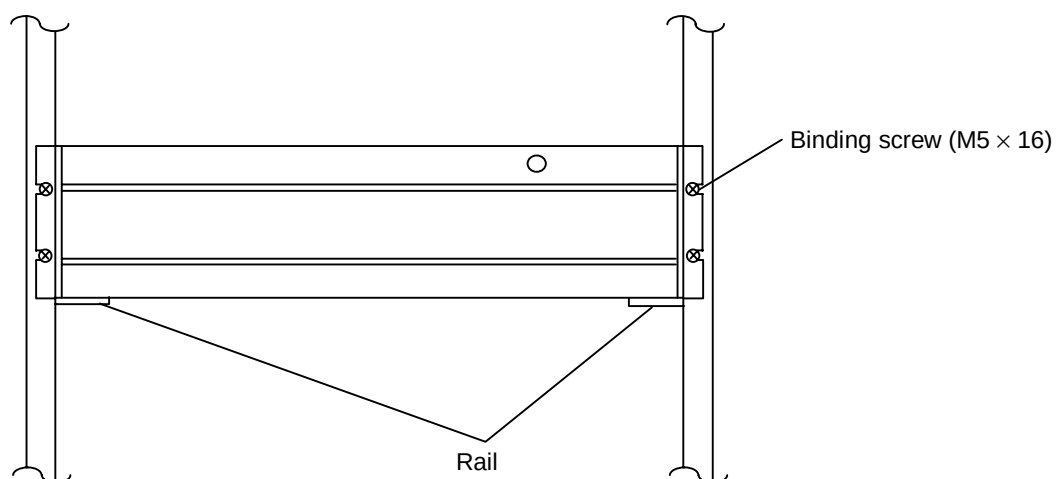

Figure 3.4.6 Securing the Front Side of the Subsystem
3.4.5 Securing the front side of the subsystem (See Figure 3.4.6.)